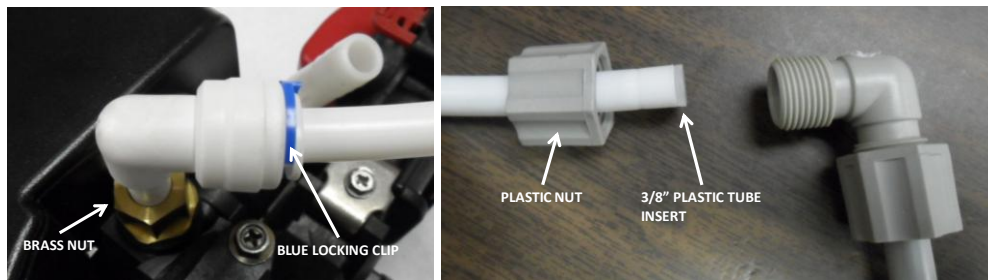

Figure 8. Brine Line Connections View
6. Connect the brine line from the valve to the air check / safety elbow as per figure 8. Double check to make sure all connections are assembled correctly and the brass and plastic nuts are tight and secure to prevent leaks.